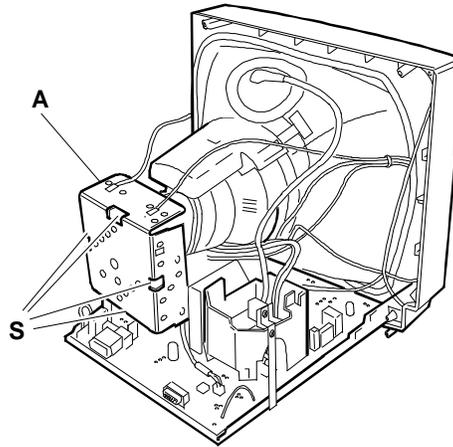

Fig. 41-5 Removing the Video Amplifier Board
4. To separate the board from the metal cover, unsolder the 4 solder points (S) shown in figure 41-5.